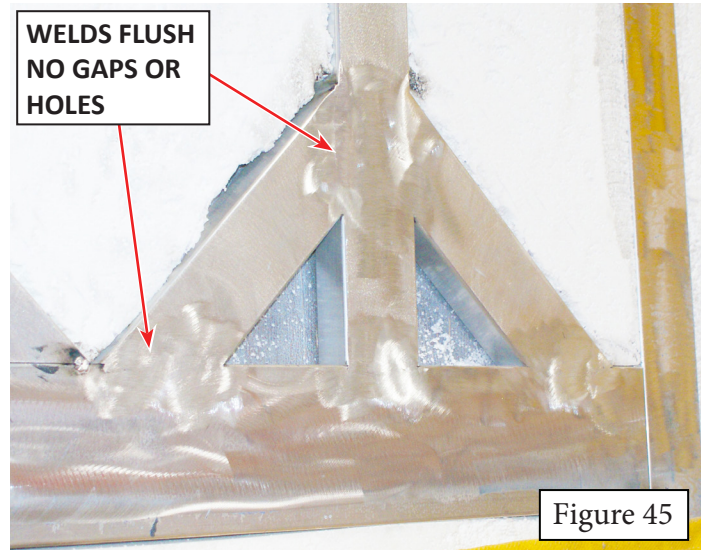

Figure 45
13. Once all of the welds have been ground flush, give each weld a final inspection for gaps, holes or breaks (Figure 45- sample - all welds should be flush like this example).